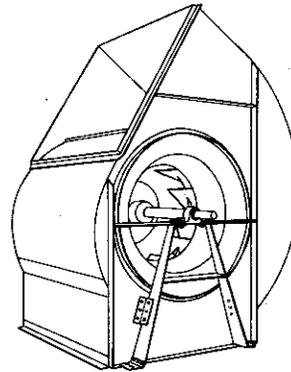

Fig. 10 - Typical Double Width Fan
5.06 A double width or center plate type fan has to be treated a little differently. A fan of this type, as illustrated by Fig. 10, has one bearing on each side of the fan and has to be chalked on each side between the bearing and wheel as in reality two wheels have to be balanced at the same time, and one side affects the other if not carried out this way. Now with marks on both sides of the fan, see if the marks are on the same side of the shaft. If so, weights are usually used on each side of the wheel same as in Paragraph 5.05. If marks shift, the weights are moved till best results are obtained.